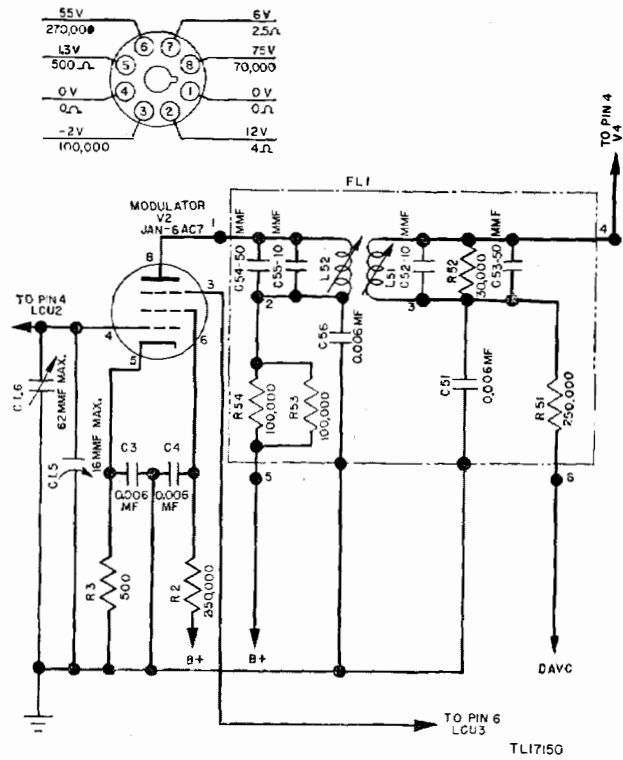

Figure 26. Radio Receiver BC-603-(*), modulator, V2—schematic diagram.
33. Parts List for Modulator Stage, V2 (fig. 26)